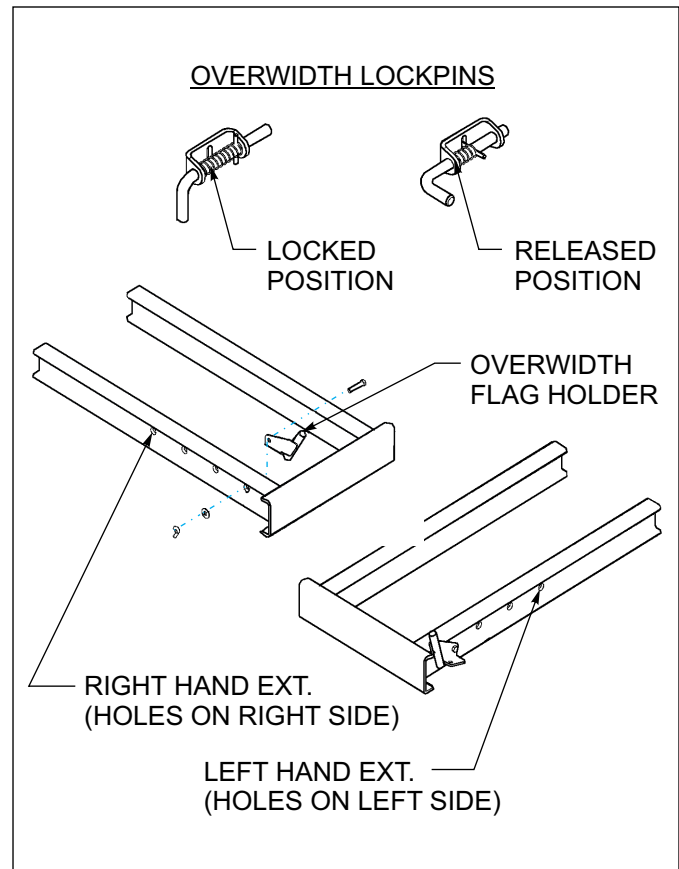

Figure 3-6: Pull Out Extensions
1. Pull out extensions are adjustable in six inch increments. Extension lock pin can be held in released position when pulled back and rotated one quarter turn into catch (See Figure 3-6.)